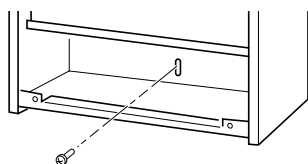

Figure 11 - Installing Bottom Mounting Screw
1. Locate bottom mounting hole. This hole is near bottom on back panel of heater (see Figure 11, page 9).